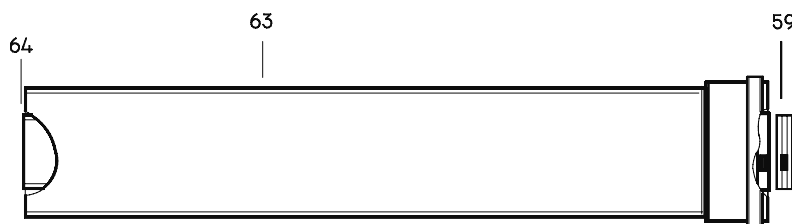

Fig 11
**FLUE EXTENSION BOX CONTAINING** (Fig. 11):